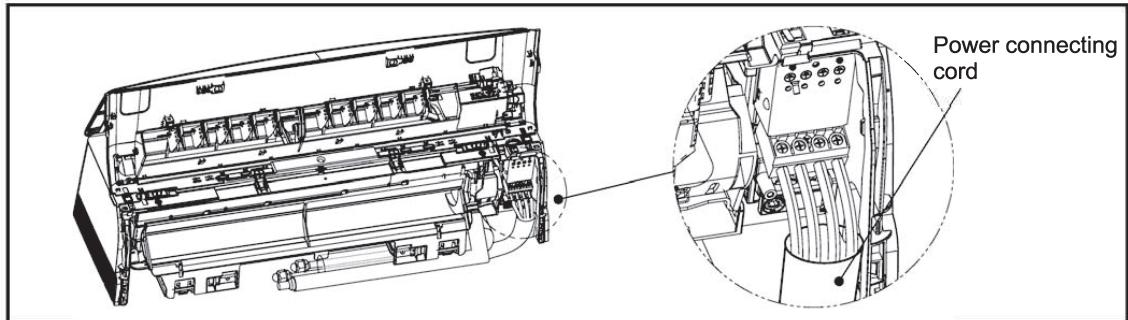

Fig. 18
- 8) Connect the power connecting cord (Fig.18).